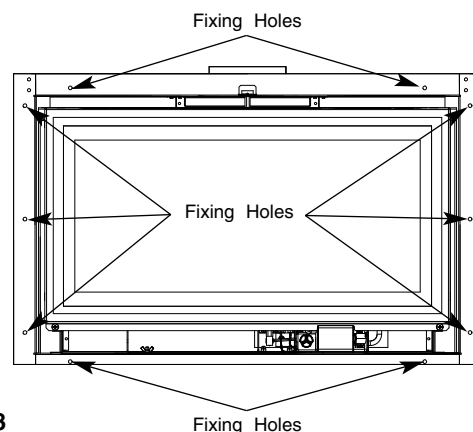

Fig. 18
8. Secure the fire box to the wall using the fixing holes provided in the fire box flange (Fig. 18).